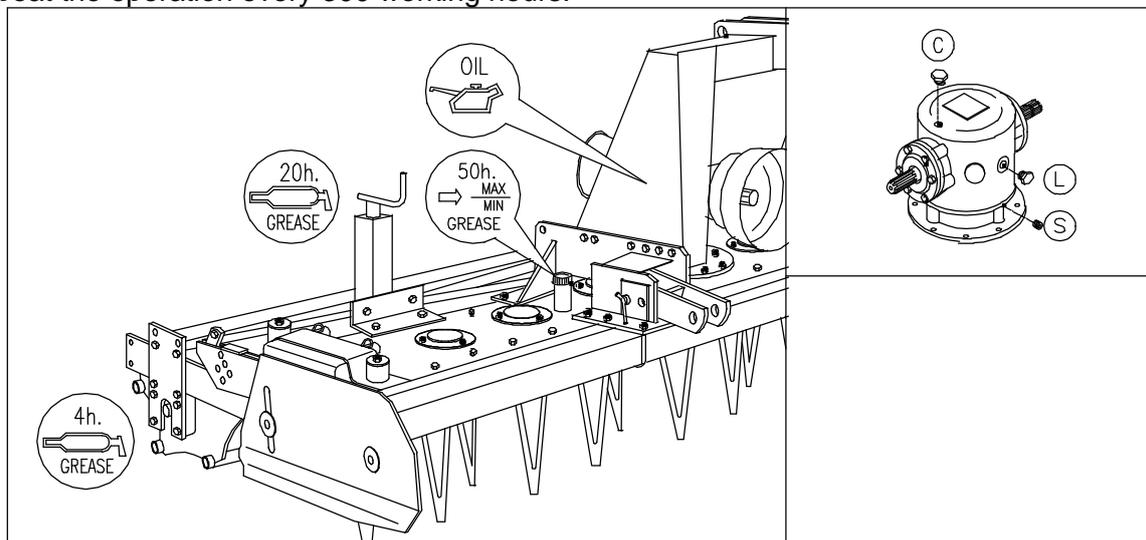

FIG. 13
- After the first 50 working hours, you should replace the gear-box gear oil, discharging it from the special cover -S- reported in figure 13..
Fill with the prescribed oil type through the filling plug hole -C- reported in figure 13 and check that the oil reaches the level from the relevant level hole -L--.